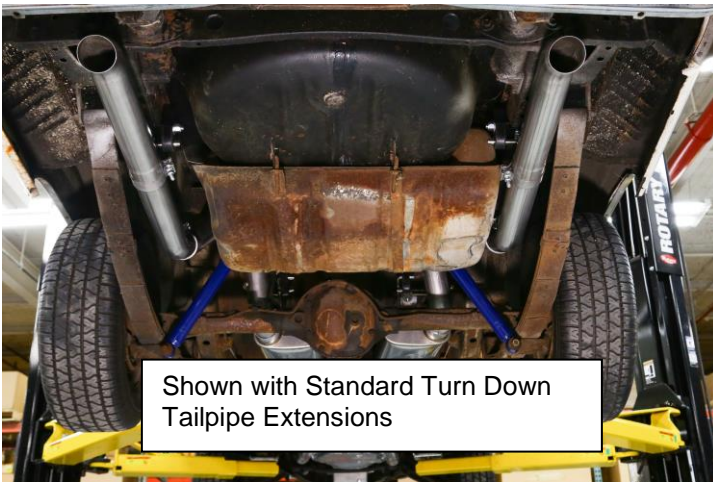

Figure 11
20. Install a clamp onto the expanded end of the Turn down tail pipe extension or optional BHC304 stainless steel tip extension, install the left and right tip extensions on to the adaptor pipe and tighten the clamp to allow for adjustment (**Figure 11**).